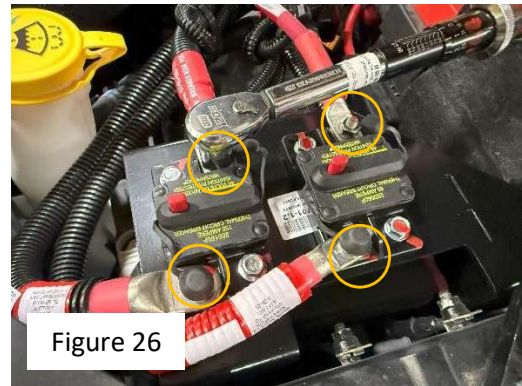

Figure 26
29. Torque all connections with 10mm socket to 50 In-lbs (Figure 26)